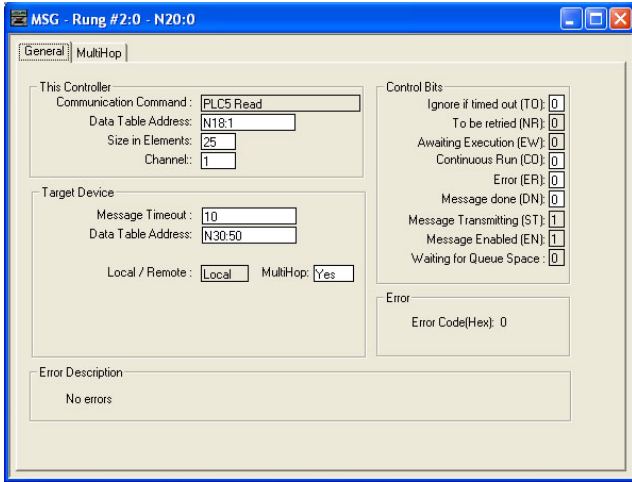

Figure 120: MSG Configuration, "General" Tab
- b) Upon hitting the <ENTER> key while in the “Control Block” entry box, the MSG Properties dialog box should appear (or it can be opened by clicking on the “Setup Screen” button at the bottom of the MSG instruction). Refer to Figure 120.